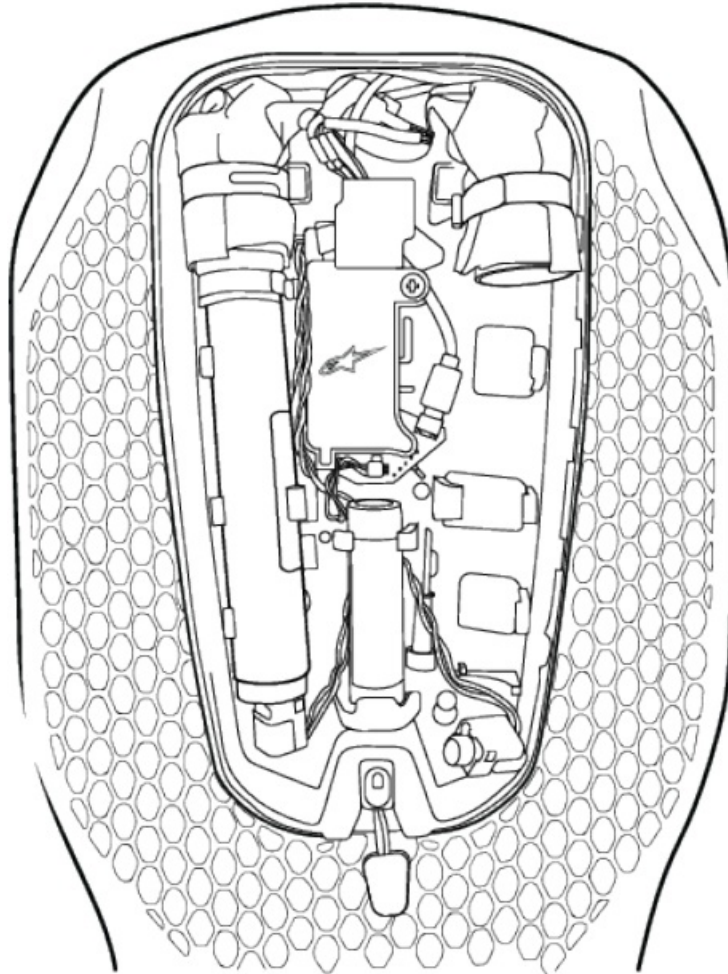

Figure 5: Check the Gas Inflator (1) availability: connect only one Gas Inflator (1) and check the System LEDs.
One Gas Inflator (1) should remain connected to the Squib Connector as shown in Figure 5 below.
YOU MUST ONLY CHECK ONE GAS INFLATOR (1) AT A TIME, THIS MEANS THAT ONLY ONE GAS INFLATOR (1) SHOULD BE INSERTED INTO THE SYSTEM AND THE OTHER GAS INFLATOR (1) MUST BE COMPLETELY REMOVED FROM THE SYSTEM AND DETACHED FROM THE SQUIB CONNECTOR (6), as shown in Figure 5 below.